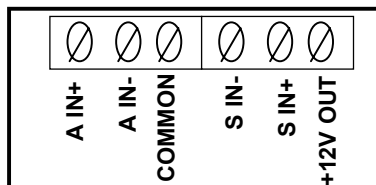

Figure 8
6. Insert one of the sensors signal output wires into the **COMMON** terminal and secure the wire by turning the terminal's screw clockwise. *(Refer to the MX001 box or to Figure 8 for the order of the terminals for the sensor wires.)*